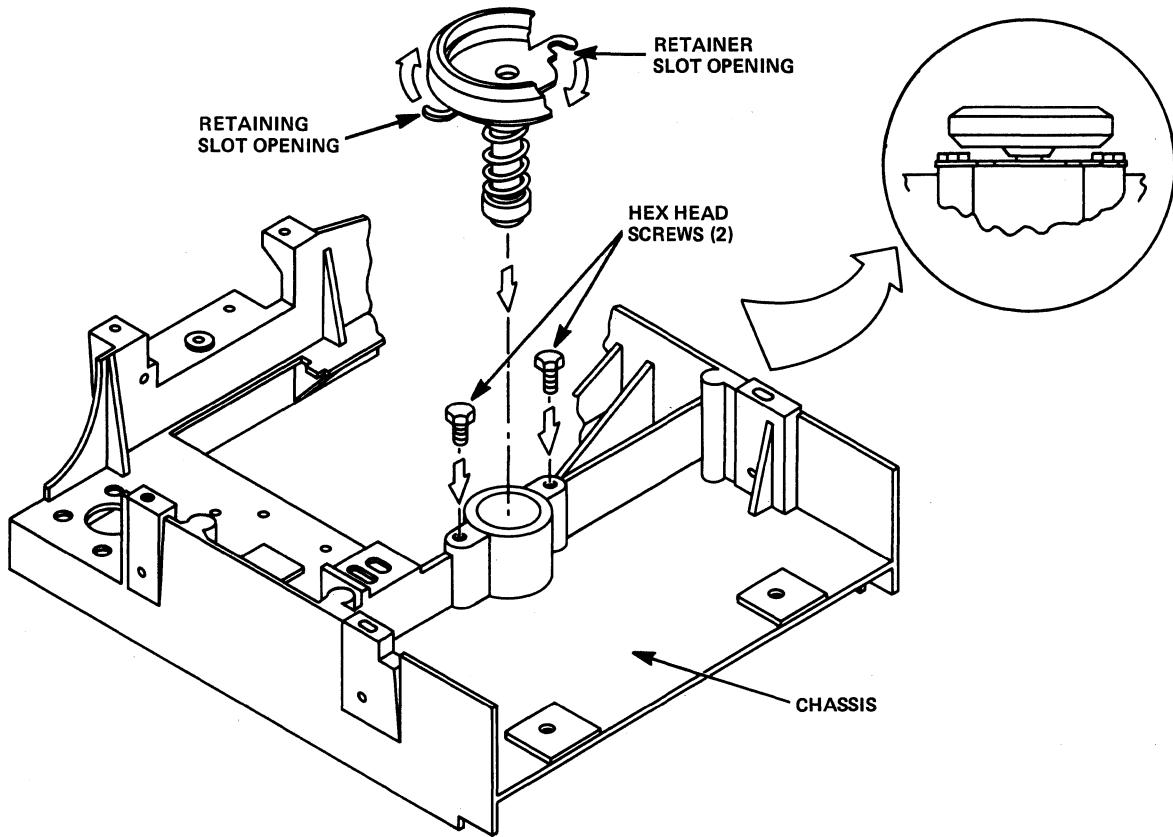

Figure 5-31
- 5.15.7 Using a one-quarter (1/4) inch wrench, loosen the two (2) hex head screws that attach the Spindle Assembly to the top of the chassis (see Figure 5-31).
- 5.15.8 Rotate the retainer counterclockwise until its slot openings no longer are held by the two (2) hex head screws (see Figure 5-31).
- 5.15.10 Insert the new Spindle Assembly carefully into its mounting hole at the top of the chassis (see Figure 5-31).
- 5.15.12 Using a one-quarter ($\frac{1}{4}$)inch wrench, tighten the two (2) hex head screws that attach the bearing retainer to the chassis (see Figure 5-31).